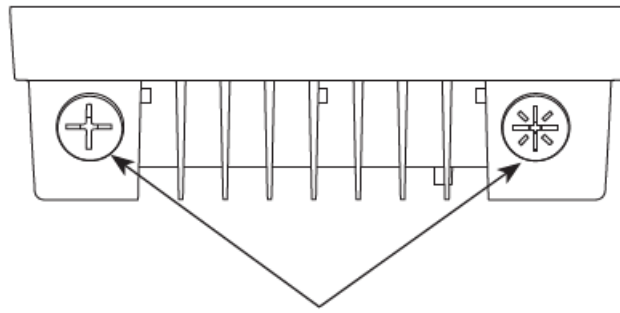

Fig: 5
1. Remove Selector Switch Caps by turning counterclockwise using a flat head screwdriver Fig. 5.